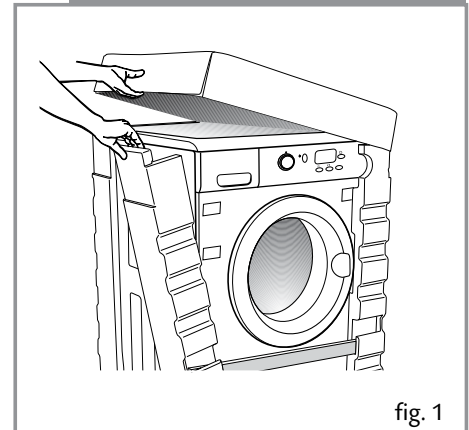

fig. 1
- Remove the base, corner protectors and top cover (Figure 1).